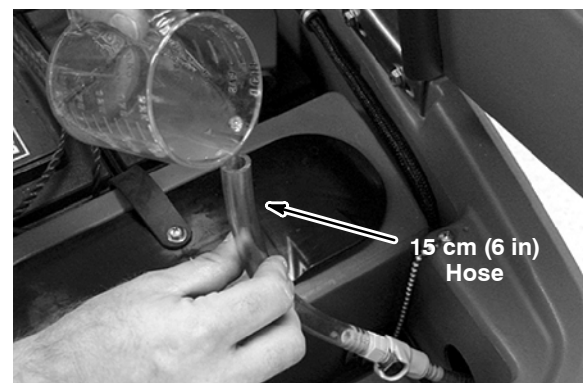

FIG. 71
4. Pour the recreational vehicle RV antifreeze into the supply hose until full (Figure 71).